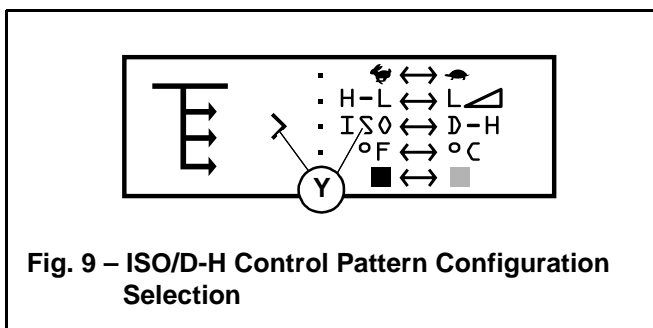

Fig. 9 – ISO/D-H Control Pattern Configuration Selection
2. Press and release the interface button until the selection caret points to the “ISO/D-H” selection (Y, Fig 9). Press and hold the interface button for 5 seconds.